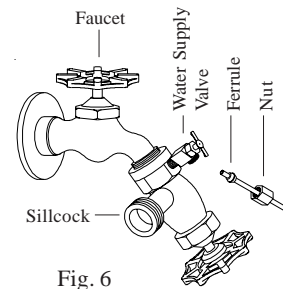

Fig. 6
• **Connect water supply line.** Install a sillcock and water valve on faucet as shown by figure 6. Place the nut and ferrule on the tubing and tighten the nut until water tight.